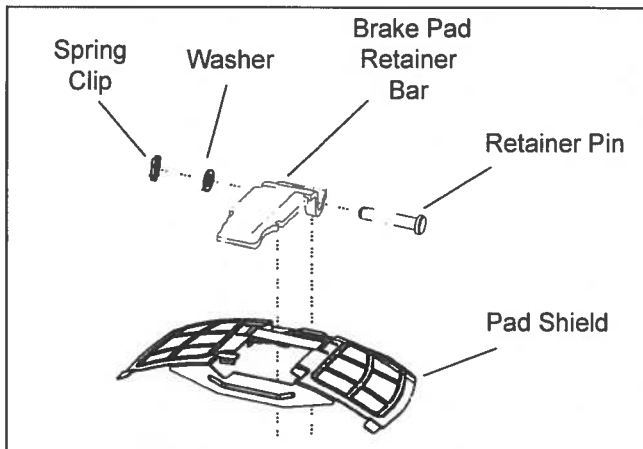

Figure 5 – Pad Shield
3. Remove and retain the pad shield (if equipped). (See Figure 5).